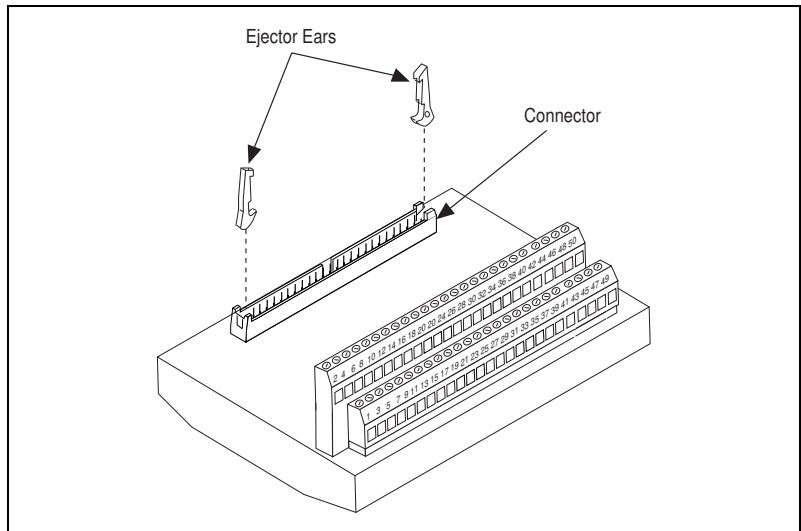

Figure 3. Inserting the Ejector Ears into the Connector Block
3. Insert one pair of the ejector ears into each connector block as shown in Figure 3.